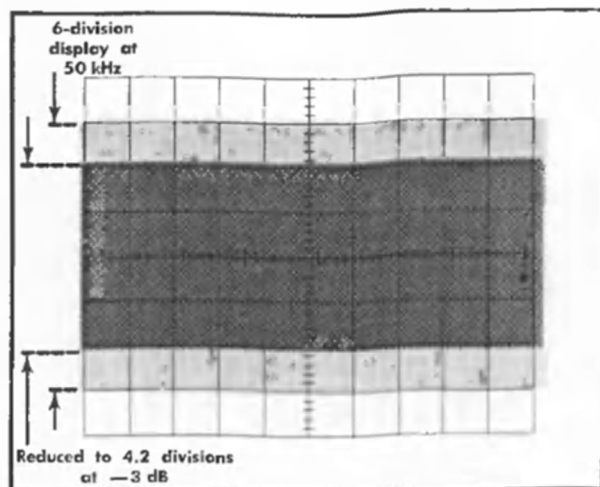

Fig. 6-26. Illustration of CRT display when checking vertical frequency response.
- Without changing the output amplitude, increase the output frequency of the constant-amplitude generator until the display is reduced to 4.2 divisions (−3 dB point; see Fig. 6-26).
- d. Without changing the output amplitude, increase the output frequency of the constant-amplitude generator until the display is reduced to 4.2 divisions (-3 dB point; see Fig. 6-26).